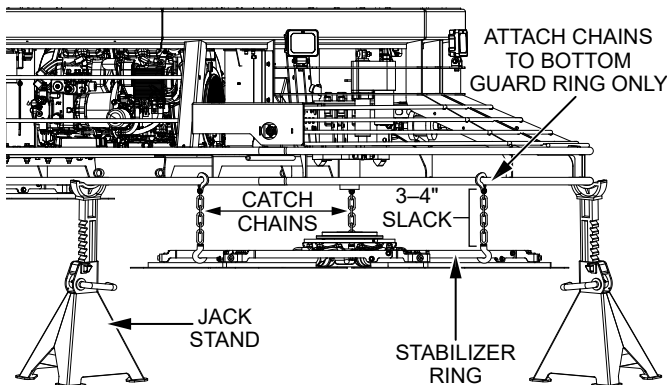

Figure 48. Preparation For Spider Removal
3. Place the trowel on **heavy-duty jack stands** (Figure 48) on secure, level ground in an area that is free of dirt and debris.
4. Attach one end of three equally spaced straps or **catch chains** to the **stabilizer ring** (Figure 48). Attach the other end of these straps or chains to the **bottom guard ring** in a manner that would prevent the spider assembly from falling.